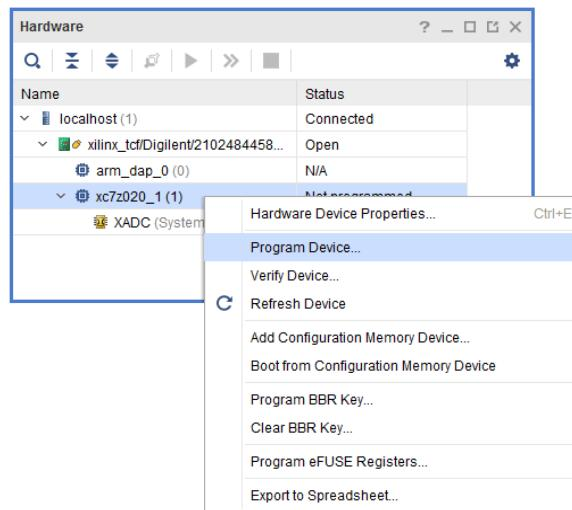

Figure 10.41: Program Device option
12. You can program the hardware device right-clicking on the device in the **Hardware** window and selecting the **Program Device...** option, see Figure 10.41.